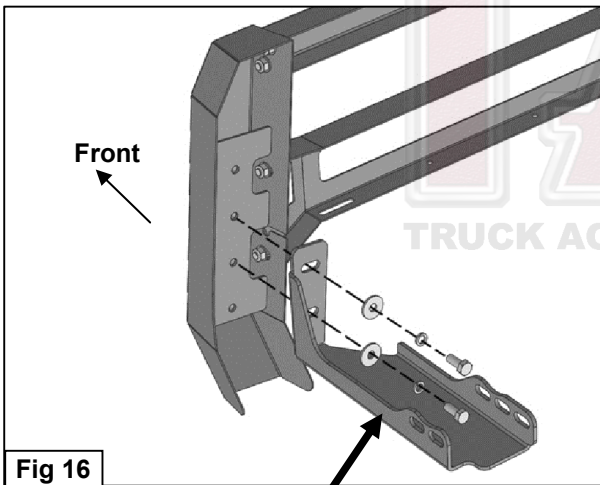

Fig 16
- 13.** With assistance, hold up the assembled Bull Bar to the Mounting Brackets. Align the (2) holes located in the middle of the Uprights with the (2) holes in the Mounting Brackets. Attach the assembled Bull Bar to the Brackets with (4) 10mm Hex Bolts, (4) 10mm Lock Washers and (4) 10mm x 30mm Large Flat Washers, **(Figures 16 & 17)**. Do not tighten hardware at this time.